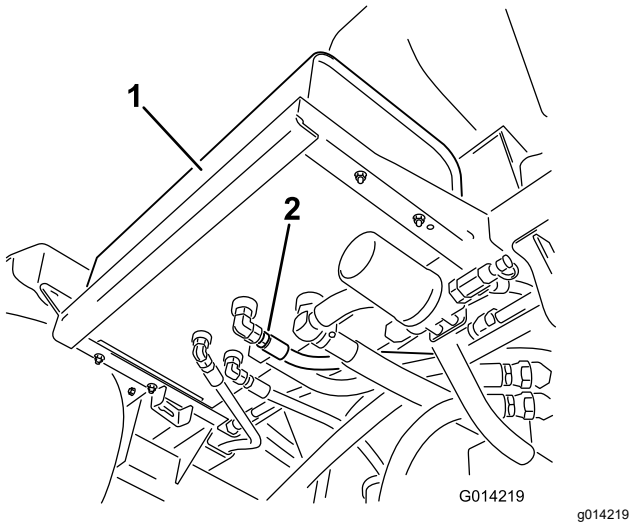

Figure 102
2. Clean the area around a hydraulic-hose fitting on the bottom of the hydraulic-fluid tank (Figure 102).
4. Remove the hose fitting from the tank, allowing the fluid to drain into the pan (Figure 102).